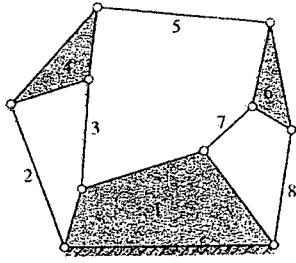

Fig 1
- iii. Find the mobility of each mechanism shown in the fig 1 and 2